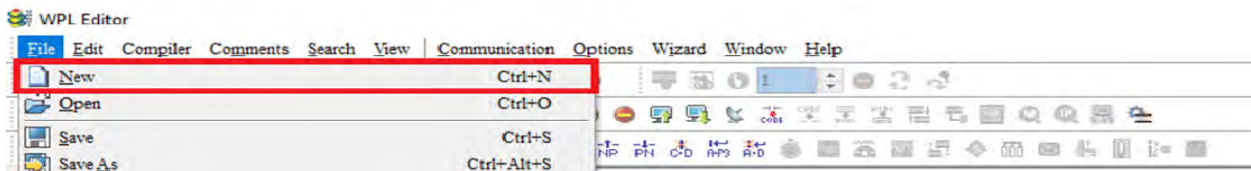

Figure 16-5
NOTE You can also find “New file (N) (Ctrl+N)” in the "File (F)", as shown in figure 16-5 below.